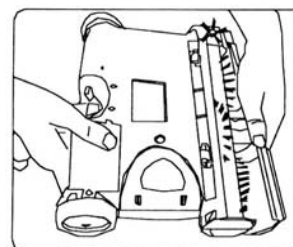

Fig. 10
3. Remove the brush cover. (Fig. 10) (Refer to page 5 for detailed instructions.)